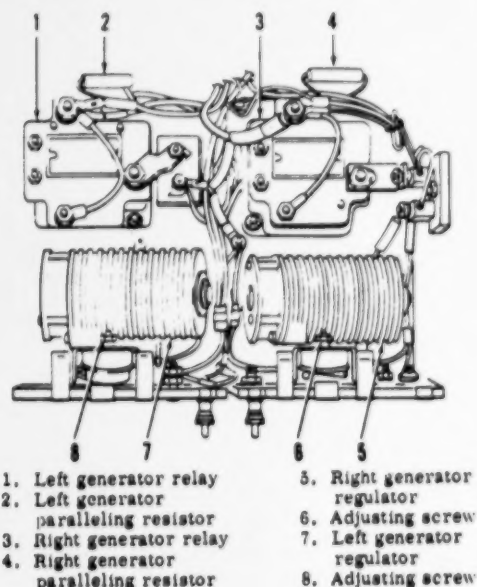

Figure 12-15. Voltage regulators and reverse current relays
e. Adjustment. It is essential that both generators share the electrical load equally to prevent damage to one of the generators, as the generator having the higher output voltage will take all the load. Parallel the generators by means of adjusting screws (6 and 8, figure 12-15) until output voltage of each generator is the same. The paralleling resistors (2 and 4) are then adjusted so that current load of electrical circuits are equally shared by each generator. Paralleling must be done with a suitable precision portable dc voltmeter with a 0- to 30-volt range as follows: